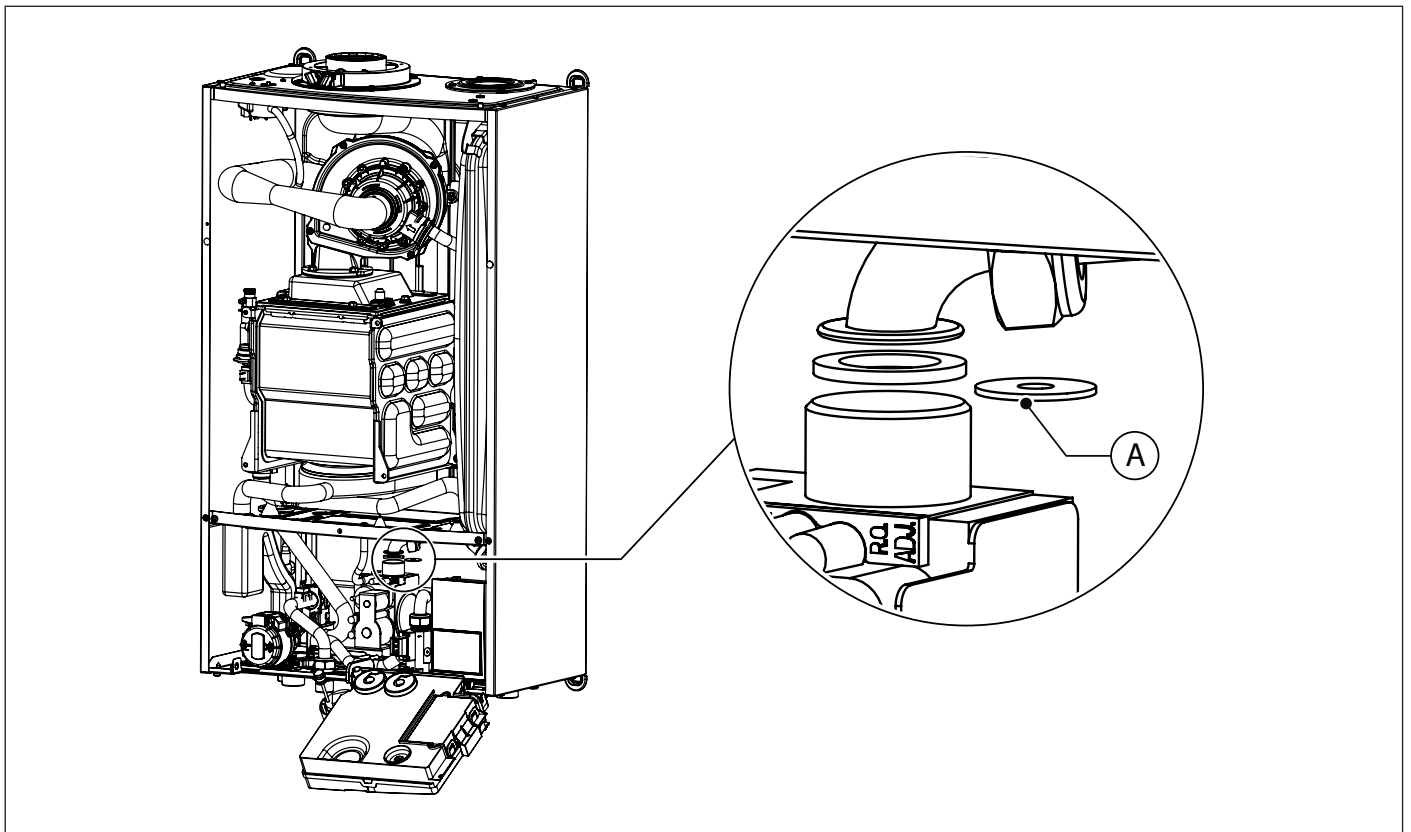

Fig. 23 Gas diaphragm replacement
- Disconnect the gas pipe from the gas valve (see Fig. 23 Gas diaphragm replacement).
- Replace the gas diaphragm (A) with the one of the new gas type (see Fig. 23 Gas diaphragm replacement).